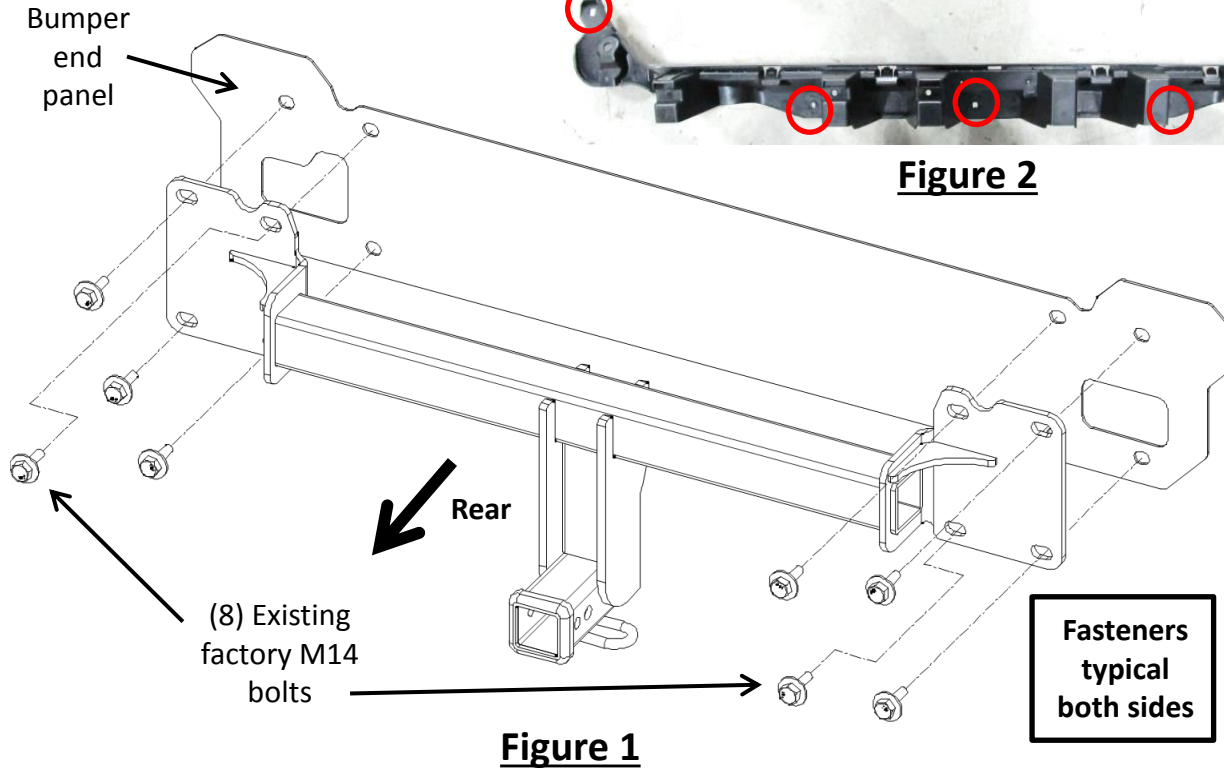

Figure 2
- 1. Bottom appearance panel removal** – Use 10 mm socket to remove (3) screws and screwdriver to remove (4) plastic screws from the bottom panel. Carefully remove the bottom panel and set it aside for reinstallation.
- 2. Fascia removal** – (a) Open the rear hatch. Remove interior trim panel next to taillight each side. Use 10 mm socket to remove (1) screw behind interior trim panel each side. Use screwdriver to remove (1) plastic screw from the fascia each side. (b) Use screwdriver to remove (2) screws from wheel well each side. Behind the wheel well, use T20 torxbit socket to remove (2) screws and screwdriver to remove (4) screws each side. (c) Use plastic trim tools to remove the fascia starting at the outer edges near the wheel wells and gently pull the fascia. Disconnect wiring harness on driver side if present.
- 3. Bumper beam removal** - Use 8 mm socket to remove (5) screws from the panel above bumper beam, see **Figure 2**. Use 21 mm socket to remove (4) M14 factory bolts from bumper beam each side. Gently remove the panel and bumper beam and set them aside. Return bumper beam to vehicle owner.
2. Fascia removal – (b) Use screwdriver to remove (2) screws from wheel well each side. Behind the wheel well, use T20 torxbit socket to remove (2) screws and screwdriver to remove (4) screws each side. **(c)** Use plastic trim tools to remove the fascia starting at the outer edges near the wheel wells and gently pull the fascia. Disconnect wiring harness on driver side if present.
3. Bumper beam removal - Use 8 mm socket to remove (5) screws from the panel above bumper beam, see Figure 2. Use 21 mm socket to remove (4) M14 factory bolts from bumper beam each side. Gently remove the panel and bumper beam and set them aside. Return bumper beam to vehicle owner.